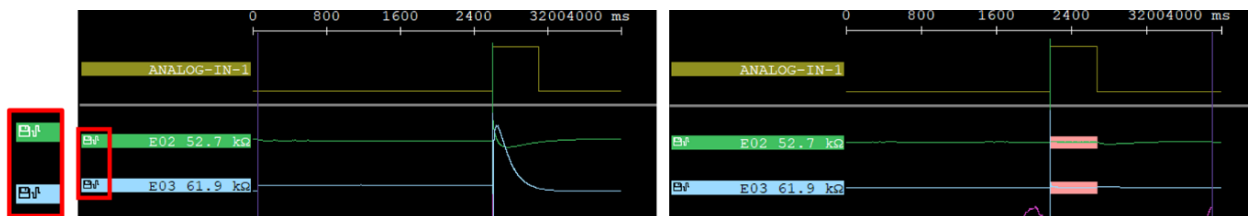

Fig. 73: Edge Triggered (left) and Level Triggered (right), both triggered on high.
- The **trigger type** can be set to either "edge triggered" or "level triggered." Selecting "edge triggered" causes a stimulation sequence to execute once every time the trigger transitions from an inactive state to an active state. Selecting "level triggered" causes a stimulation sequence to execute and then repeat as long as a trigger source remains in the active state. We recommend selecting "edge triggered." Note that the stimulating electrodes are labeled with a symbol of a stylized stimulus pulse (red box in **Fig. 73**).